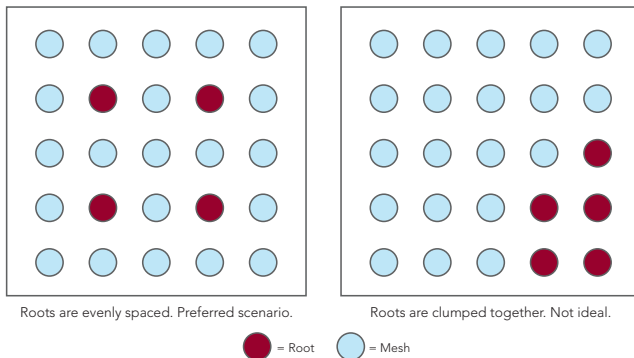

Figure 8: Root Placement
- v. **Distribute roots evenly throughout coverage area.** If there are multiple roots within the Smart Mesh, ensure the roots are evenly dispersed throughout the coverage area (not clumped up close together in one area). Figure 8 illustrates an ideal scenario, along with a not-so-ideal scenario. While the purpose of a mesh network is to provide coverage in areas that are hard to wire, the ideal may not be possible. But as far as possible, evenly spaced out root APs are preferable.